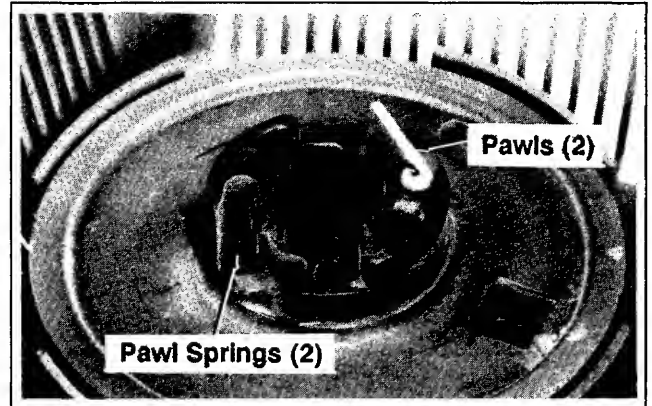

Figure 7-10. Installing Pawls And Pawl Springs.
3. Install the pawl springs and pawls into the starter pulley. See Figure 7-10.